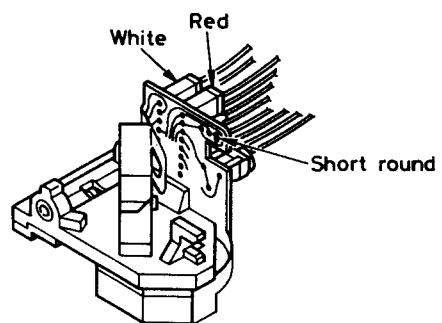

Figure 11
7. Place shorting round as shown in Figure 11 and remove both wire connectors.
(See Figure 11)